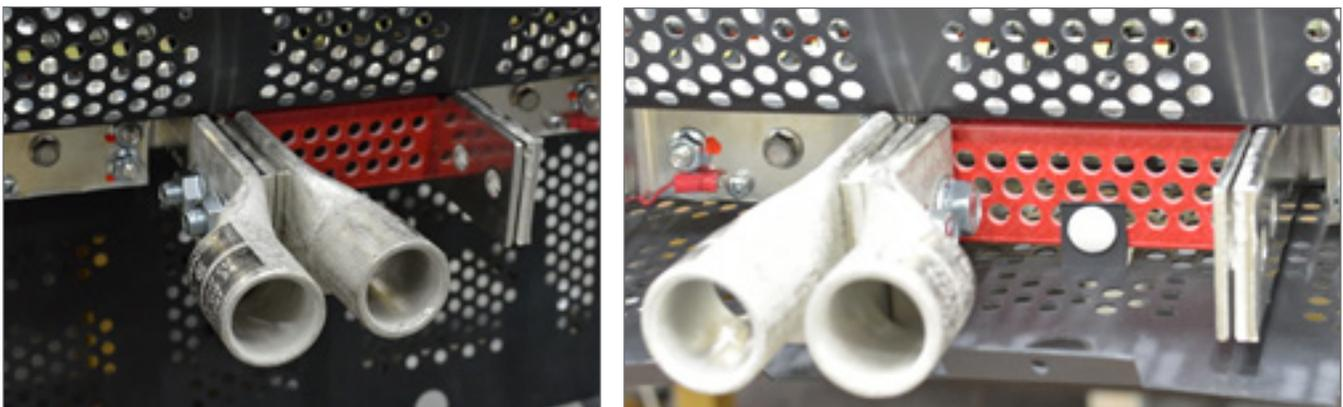

Figure 13 — Lug Connection, Middle Push-clip
5. Remove the semi-ovular tear-out sections in the back cover to provide clearance for the lugs, as shown in Figure 13.
6. Once the lugs are connected, move the bottom cover into position and secure the middle of the cover first with a single push-clip, as shown on the right-side image of Figure 13.